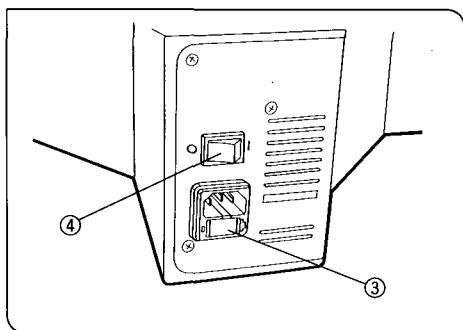

Fig. 3
4. To avoid potential shock hazards and burns, first set the main switch ④ to "O" (OFF) and then disconnect the power cord from the wall outlet before replacing the bulb and fuses ③. Whenever you replace the bulb during use or right after use, allow the lamp housing and bulb to cool before touching. (Fig. 3)